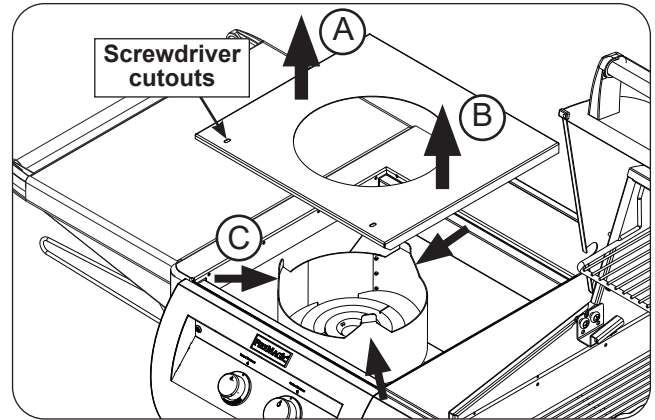

Fig. 40-1 Interior protection plate removal
2. Lift up the interior protection plate from the left side, then lift up from the right side (see Fig. 40-1, A and B).
3. While lifting the plate upward, flex the collimator inward to completely free the protection plate (see Fig. 40-1, C).